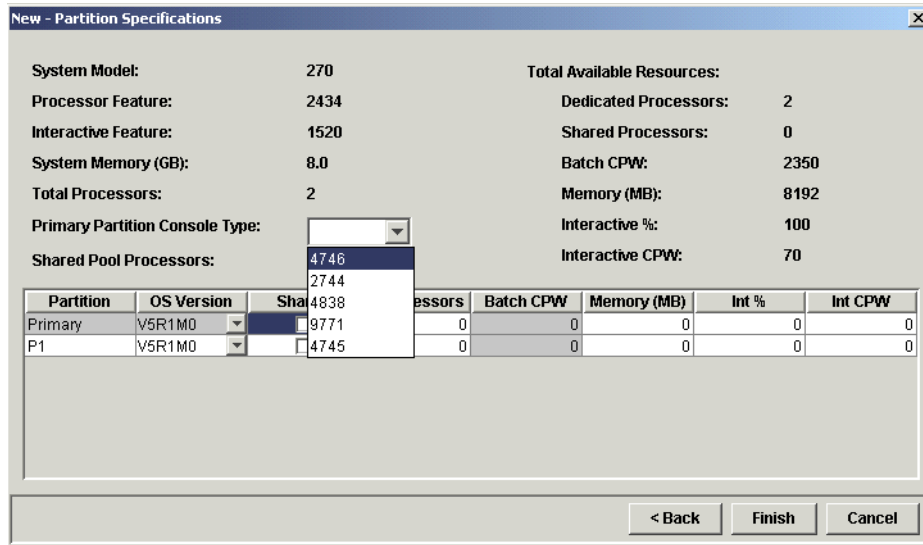

Figure 12-5 Selecting the console type for the primary partition
- ▶ Select the primary partition's console type. You can select the feature from the pull-down box. See Figure 12-5 for the window display. The valid V5R1 values are: